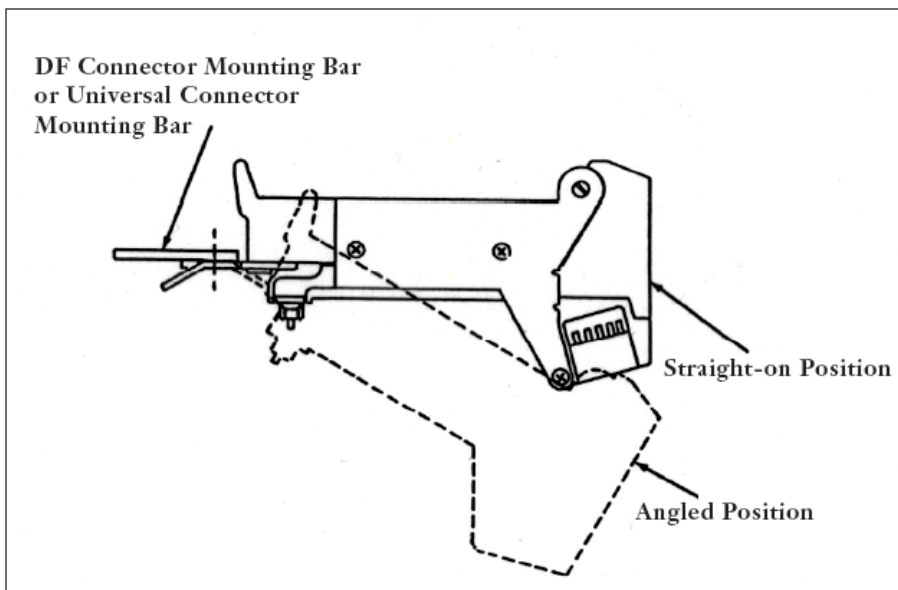

Figure 5
5.2 Locate the two tapped holes on the left side of the connector mounting bar that are to be used for mounting the connector. See Figure 5, which shows an example mounting of the C-388 & CG-388 main frame connectors to a universal mounting bar. Partially thread one of the two 1/4-20 slotted hex-head screws into the lower mounting hole. Slide the open slot of the lower section of the mounting bracket with the vertical, insert and partially thread the other 1/4-20 slotted hex-head screw into the upper mounting hole.
the screw that was previously installed. Line up the upper hole of the mounting bracket with the upper mounting hole of the connector, and partially thread the other ¼-20 slotted-head hex screw into the upper hole. Position the connector on the two ¼-20 mounting screws in the angled mounting position, and tighten the screws (Figure 5).
7.1 Change C-388 or CG-388 connector to straight-on mounting. Loosen the two 1/4-20 hex-head screws mounting the connector to the connector mounting bar. Slide the connector mounting bracket toward the rear of the frame until the connector is in the straight position (do not use force); retighten the 1/4-20 screws. Note that in Figure 5 the position for angled mounting is also shown; this is used for field stubbing of stubbles units.